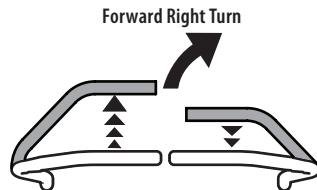

Fig. 23
2. To turn to the right, move the right drive control lever rearward of the left lever (Fig. 23).